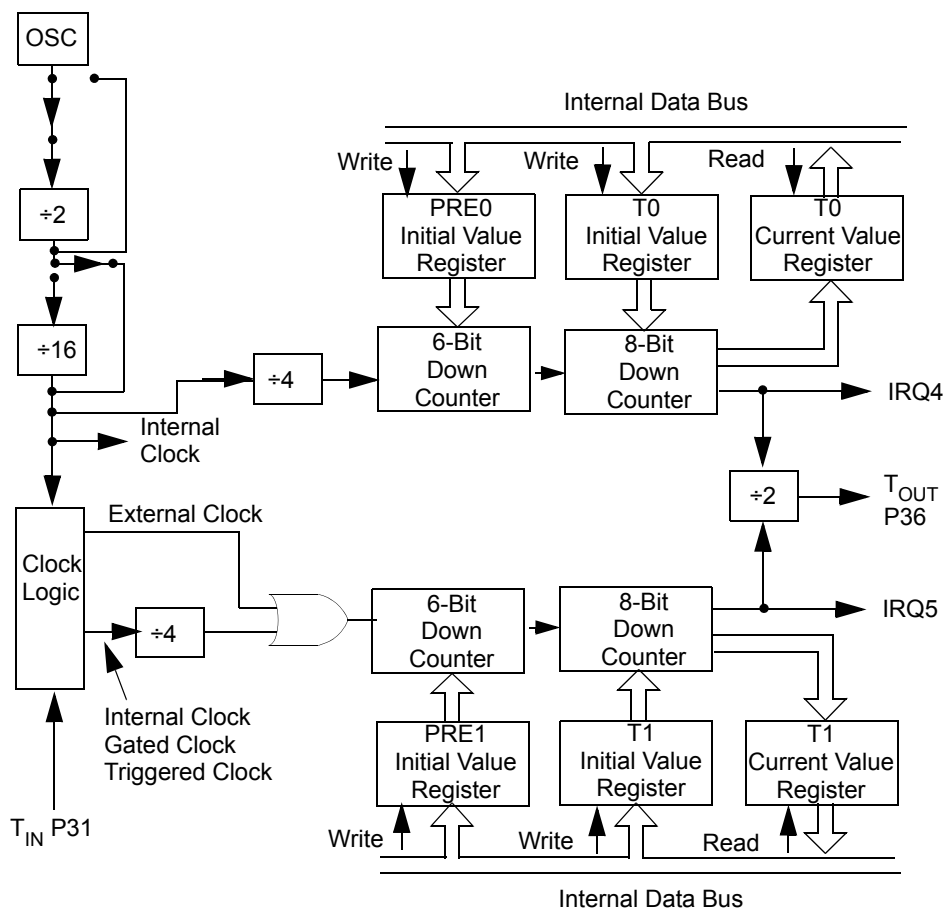

**Figure 27. Counter/Timer Block Diagram**
**Counter/Timers.** There are two 8-bit programmable counter/timers (T0 and T1), each driven by its own 6-bit programmable prescaler. The Ti prescaler is driven by internal or external clock sources; however, the T0 prescaler is driven by the internal clock only (see Figure 27).